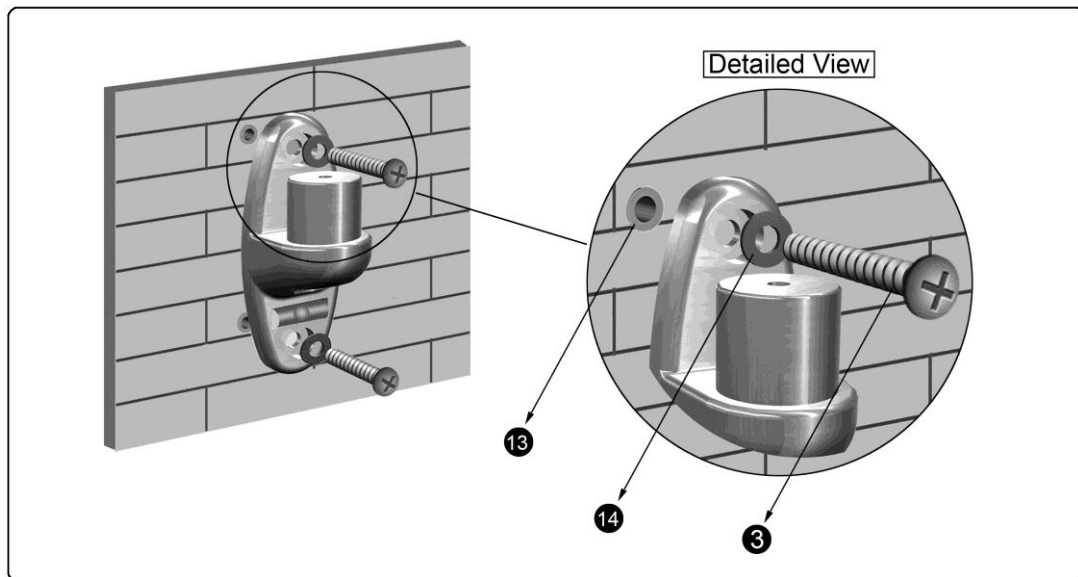

Figure 1-9
5. Insert Philips Screw ST6.3x65mm **(3)** through Washer **(14)**, Wall Plate **(2)** and finally into anchor **(13)**. Repeat for remaining Philips Screws. Tighten Philips Screws securely (**See Figure 1-9**).